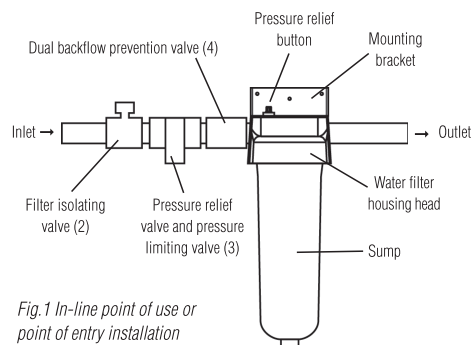

Fig.1 In-line point of use or point of entry installation
1. Turn OFF water supply to water filter housing (refer to Fig.1 and Fig.2 on page 2), by turning OFF filter isolation valve(2). Depress (RED) pressure relief button on top of filter head to relieve pressure in filter housing and installation. In installations with by-pass, turn OFF filter isolating valves (2) and turn ON by-pass valve (1).